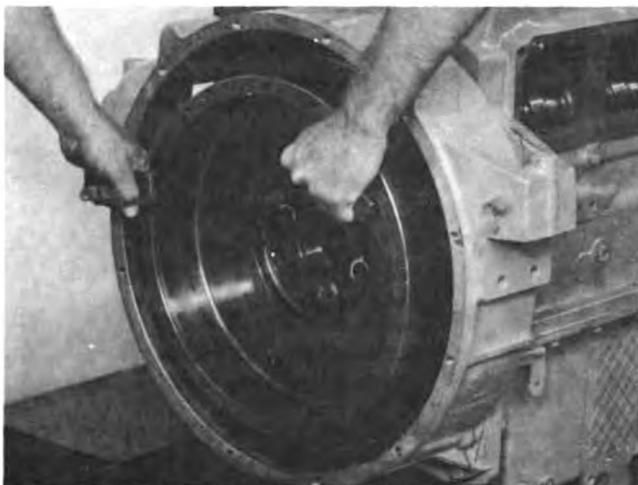

Fig. 0-49. Remove The Flywheel.
4. Lift the flywheel from the crankshaft, Fig. 0-49.